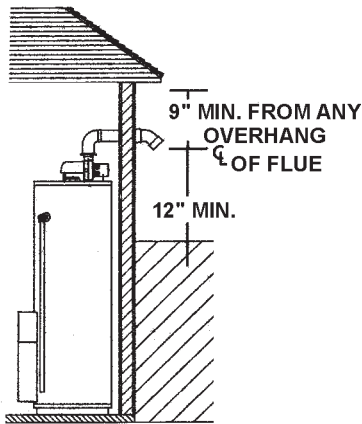

FIGURE 11.
- 12" minimum from the ground, 9" ceiling overhangs, see Figure 11.